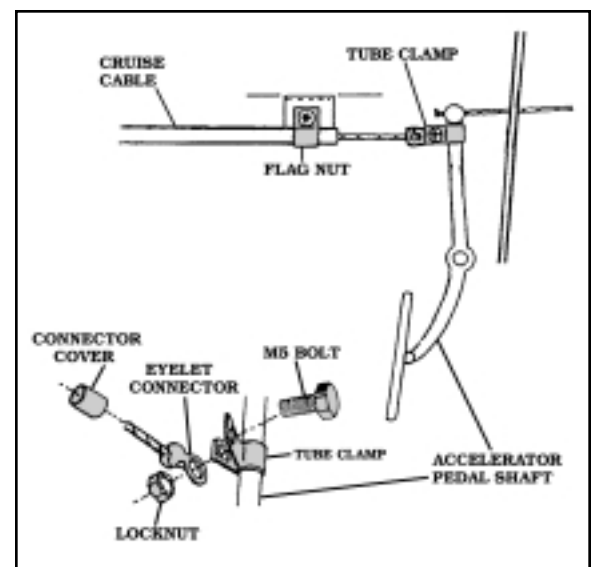

FIGURE 13
4. PUT **M5 BOLT** THROUGH THE HOLES IN THE **TUBE CLAMP**. SLIDE THE **EYELET CONNECTOR** OVER THE BOLT. THREAD **LOCKNUT** ONTO THE BOLT AND TIGHTEN. **FIGURE 13**